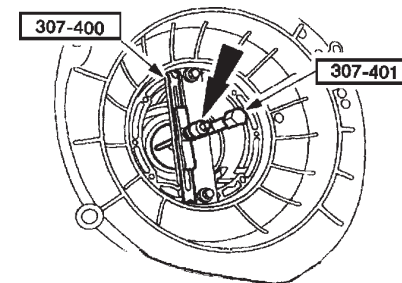

Figure 2
4. Install cushion spring compressor #307-401 or equivalent on gasket surface of front pump. Hold in position with two pump bolts at the 6 and 12 o'clock position (See Figure 2).